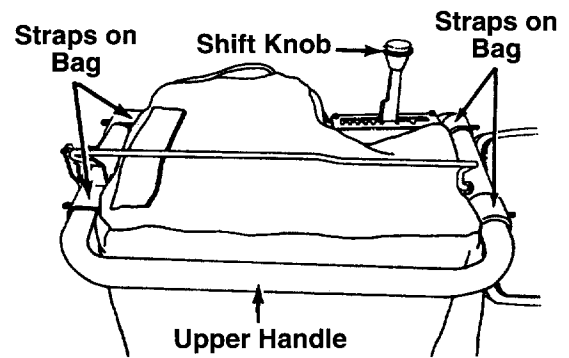

FIGURE 7.
NOTE: To determine right and left hand sides of your chipper-vacuum, stand behind and face the unit (Refer to figure 7).
- Place the four straps on top of the bag over the upper handle, hooking them on the studs. See figure 7. Make sure that the bag goes under the drive clutch handle.